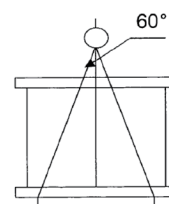
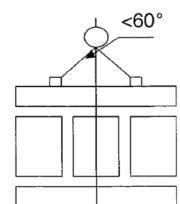

Figure 6.4: Depicts angle at 60°
Figure 6.5: Depicts angle at less than 60°
- There is a lifting sign on the enclosure, so, when lifting, hitch the four angles of enclosure as seen in figure 6.4. If there is no enclosure, use the steel wire on the wood (not provided) that is used to support the transformer, else lift the transformer from the enclosure. Make sure to lift with all the lifting lugs, noting that the slings should not form an inclination greater than 60° (see figure 6.5).